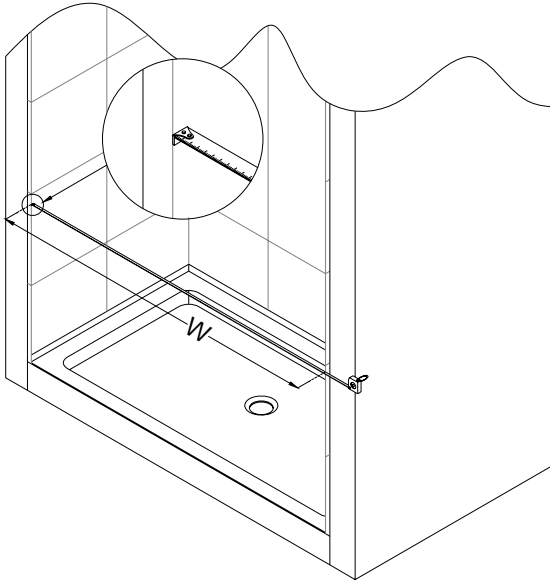

Fig 1
1. Measure the distance of two walls, distance as W . See Fig 1 for details.